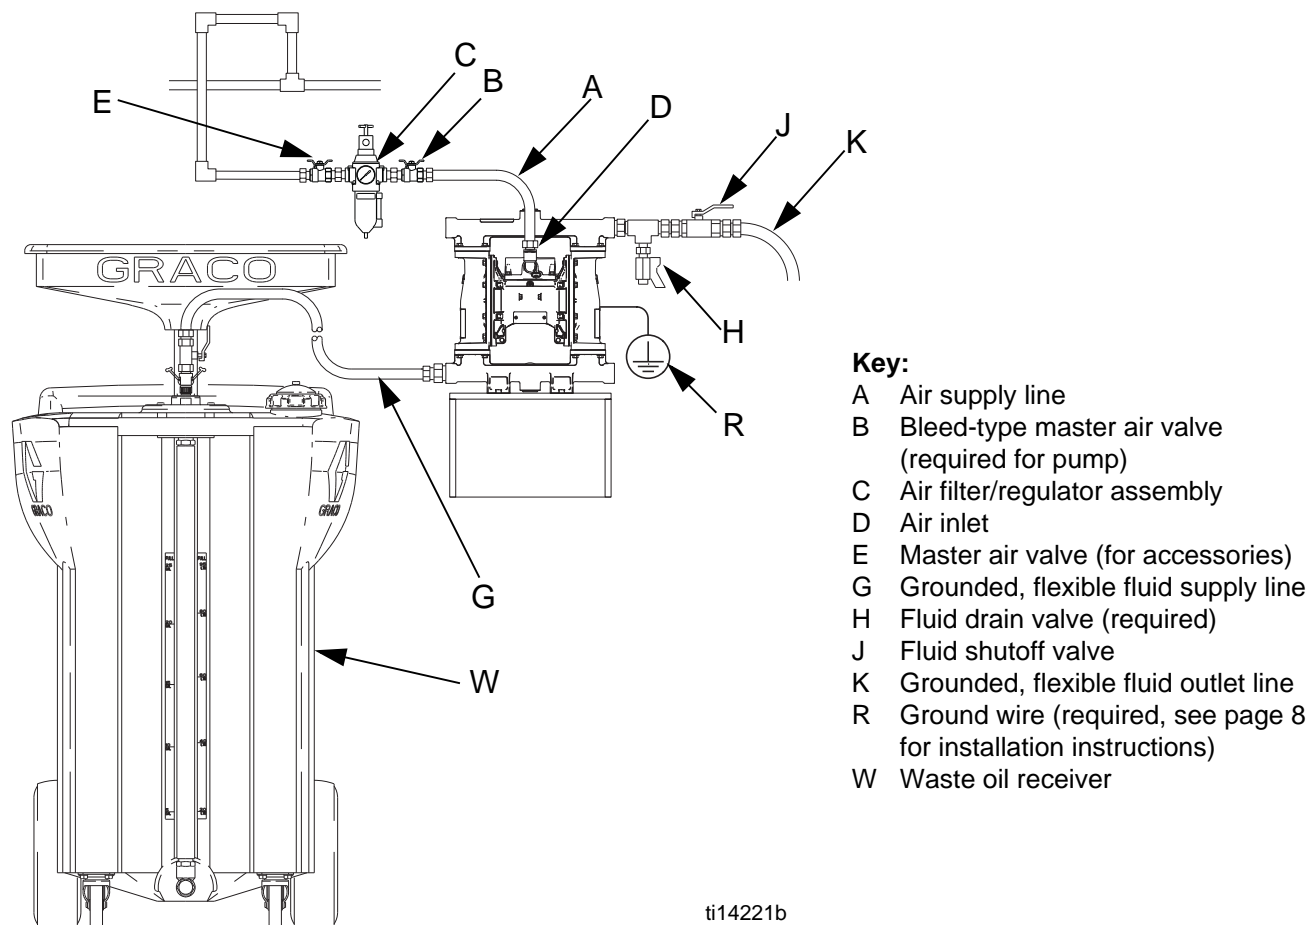
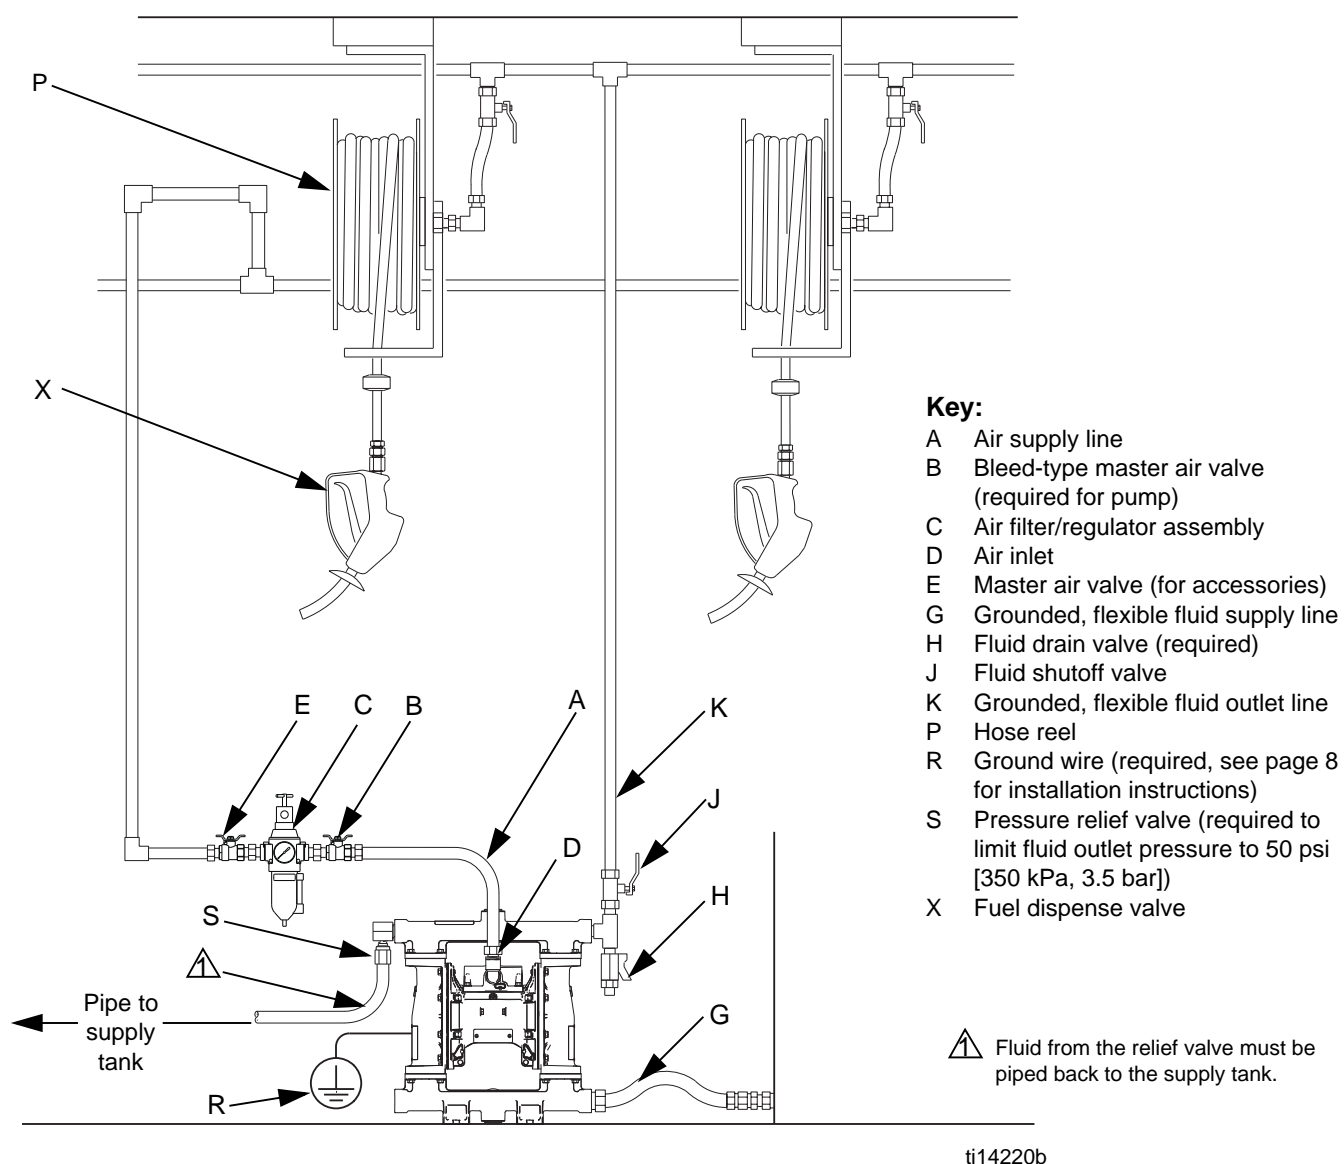

FIG. 3. Waste oil or general fluid transfer, typical installation
FIG. 5. Fuel dispense, typical installation
- The Typical Installations shown in FIG. 3 through FIG. 5 are only guides for selecting and installing system components. Contact your Graco distributor for assistance in planning a system to suit your needs.
Install the air line accessories as shown in FIG. 3 through FIG. 5. Mount these accessories on the wall or on a bracket. Be sure the air line supplying the accessories is grounded.
See FIG. 3 through FIG. 5, pages 11 through 13.
1. Use grounded, flexible fluid supply lines (G). See **Grounding**, page 8.
4. For a Waste Oil Receiver Evacuation System, connect an appropriate suction hose (G) between the pump fluid inlet and the waste oil receiver. See FIG. 3.
6. For a Fuel Dispense System, connect a fluid supply line (G) to the fluid inlet. See FIG. 5, page 13.
Fuel dispense models 647648 and 647732 requires a pressure relief valve (S), Graco part 24B910, which is supplied with the pump, to prevent fluid pressure from exceeding 50 psi (350 kPa, 3.5 bar). See FIG. 5, page 13.
See FIG. 3.
See FIG. 5.